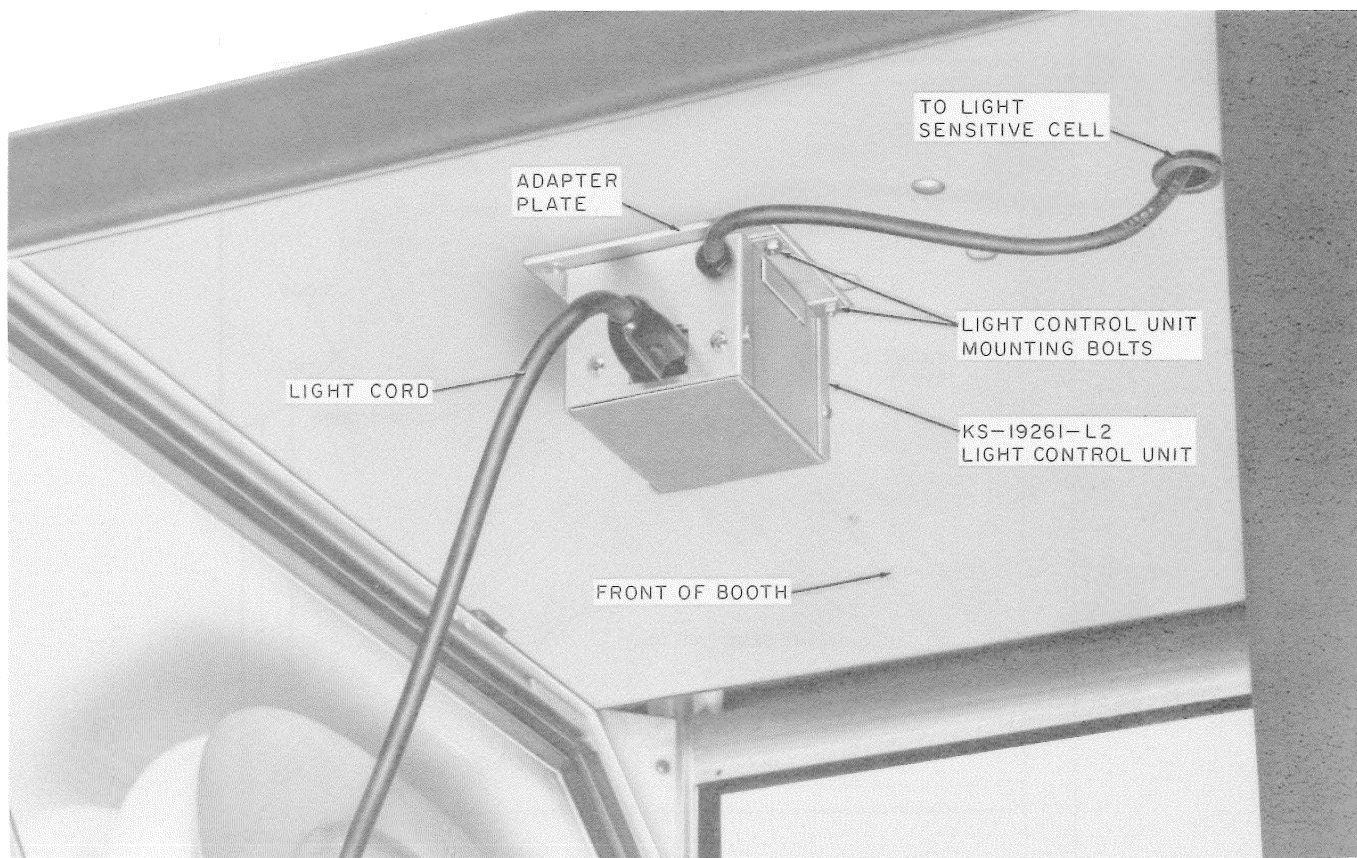

Fig. 15—Position of List 2 Light Control Unit on Ceiling of KS-14611 Booth
- (o) Plug light cord into control unit (Fig. 15).